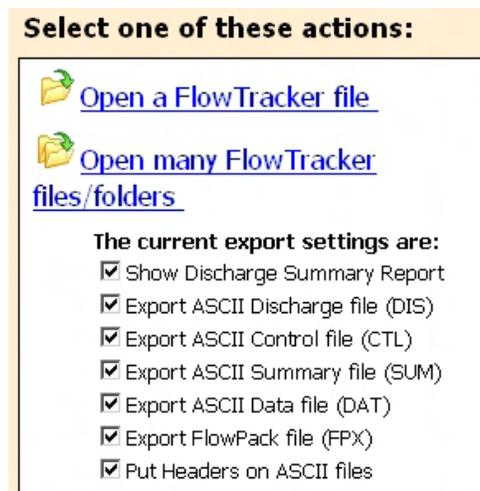

Figure 12 – Output File Options
- Select the desired output file types (Figure 12).
- *FlowTracker* looks for data files with the ***.wad** file extension and generates the selected reports and output files selected (Figure 12). All output files use the same base file name with different extensions based on the content of the files. **Important: FlowTracker does NOT prompt before overwriting the ASCII output files. Be sure any modified files, or files using the same file name, have been moved to a different folder before extracting the ASCII data.**